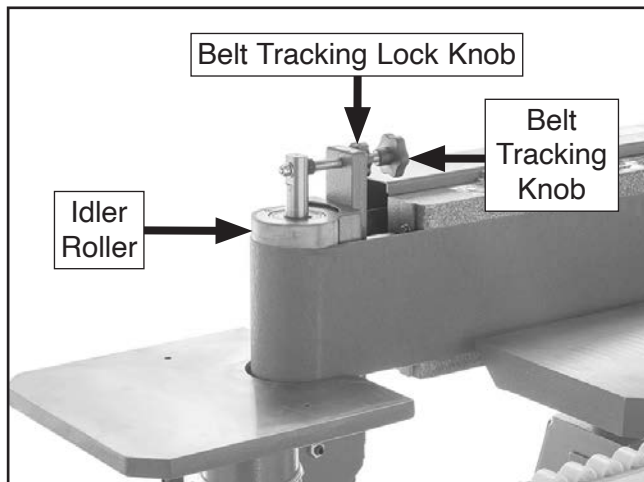

Figure 29. Belt tracking components.
5. Standing in front of sander, manually turn drive roller counterclockwise to move sanding belt in direction of operation (counterclockwise on rollers, as viewed from above), then watch how belt tracks on rollers (see **Figure 29**).
6. Loosen belt tracking lock knob, then adjust belt tracking knob (see **Figure 29**) while continuing to rotate sanding belt by hand until sanding belt stays centered on rollers.